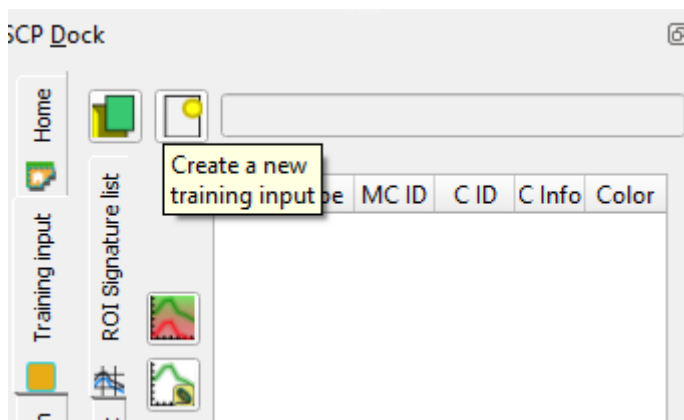

Figure 6. Creating of training file.
- 4) Now you must create a file contain Regions of Interest (ROIs) to supervise your classification process. To do so, create a new training file at *Training input* tab (Figure 6). *Note: As usual, a Band set must be loaded.*